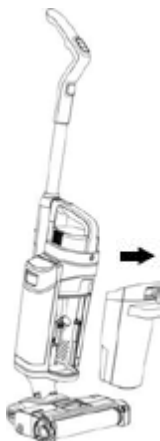

Figure 4-12
1. While pressing the waste water tank release button, remove the waste water tank from the body. Refer to Figure 4-12.